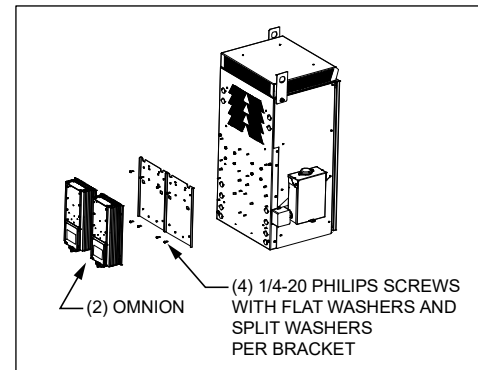

Figure 17 Power Supply Mounting
4. Mount the bracket/power supply assembly onto the back of the CUBE using four 1/4-20 Philips screws with split washers and flat washers (Figure 17, hardware included with CUBE).